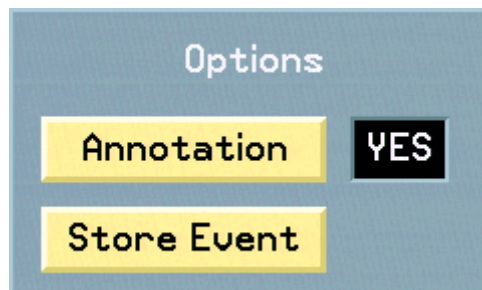

Fig. 75. Full Disclosure Options Popup
1. Press the **Options** button to display the Options Popup (fig. 75).